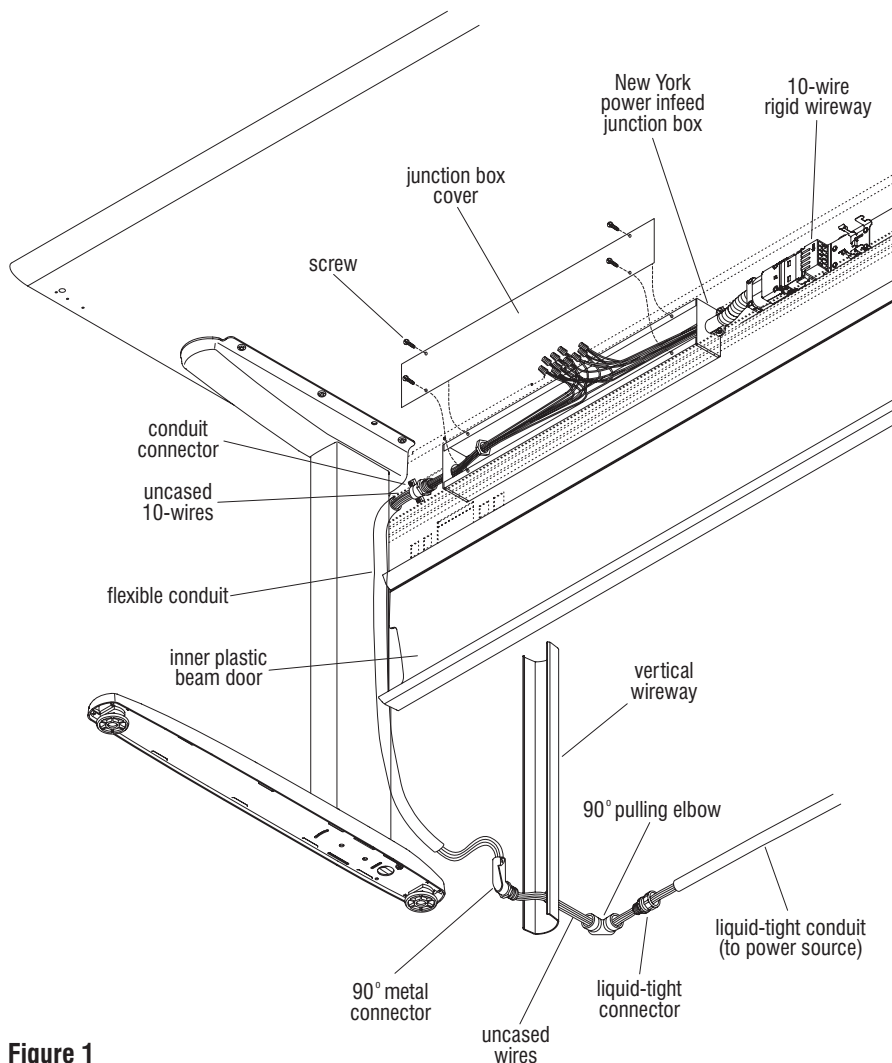

Figure 1
1. Remove the vertical power wireway from the rear of the leg by first unsnapping it at the top and pulling it straight back. Lift up on the wireway until the D-shaped hole in the foot is cleared. Angle the bottom of the wireway to the side and pull down until free (page 43, Figures 1 through 4).
3. At the upper end of the uncased 10-wires, place a conduit connector onto the wires and feed the wires through the knock-out in the end of the New York power infeed junction box as illustrated. Secure the conduit connector to the flexible conduit and to the power infeed junction box. Make appropriate connections with wire nuts inside the junction box and replace the junction box cover (Figure 1).
4. Feed the flexible conduit down the D-Shaped hole in the data trough. Route the exposed 10-wires through the 90° metal connector, vertical wireway, 90° pulling elbow, and liquid-tight connector. Fasten components together. Cut exposed 10-wires and liquid-tight conduit to desired length. Feed the exposed 10-wires through the liquid-tight conduit and attach the conduit to the connector (Figure 1).